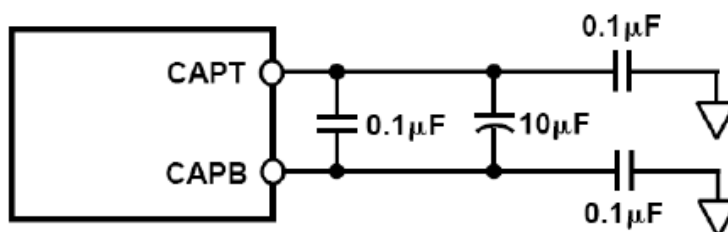

Figure 7-6. Recommended CAPT/CAPB Decoupling Network
The actual reference voltages used by the internal circuitry of the B9240MGRH appear on the CAPT and CAPB pins. For proper operation when using the internal or an external reference, it is necessary to add a capacitor network to decouple these pins. Figure 7-6 shows the recommended decoupling network. This capacitive network performs the following three functions: (1) along with the reference amplifier, A2, it provides a low source impedance over a large frequency range to drive the A/D